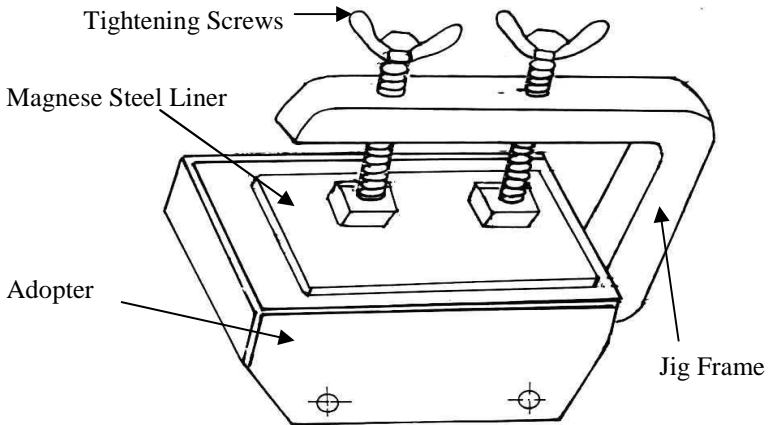

FIGURE 4.2
6. The magnese liners should be continuously welded on the adaptors using a jig as shown in Figure. 4.2 and proper welding electrodes.